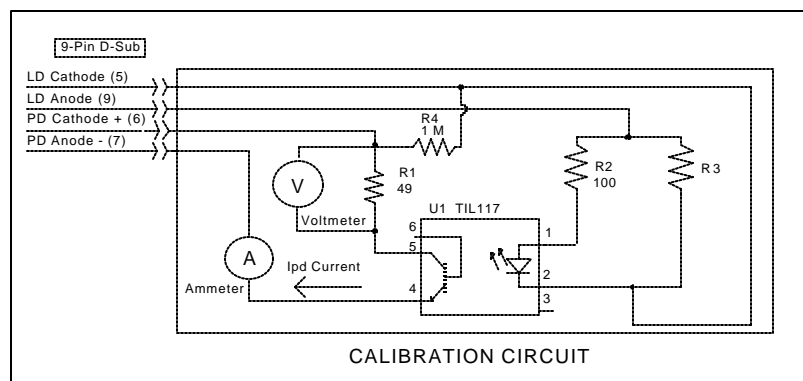

Figure 6.1 I_{PD} Calibration Circuit
It will be necessary to connect various loads and circuits to the outputs of each Current Source for the calibration procedure. A schematic is shown in Figure 6.1 for the photodiode calibration circuit with the required components listed in Table 6.2. Also, the devices required for other calibration loads are listed in Table 6.2.
PHOTO-DIODE MONITOR CALIBRATION (See schematic in Fig. 6.1)
- a. With the LASER output off, connect a calibrated ammeter to the PD Anode output of the Laser Current Source output connector (9 pin on rear panel), and connect the circuit of Figure 6.1 to the LASER and PD outputs with the correct load resistor for the Current Source model you are calibrating (See Table 6.2).
If a precision ammeter is not available, use a zero-Ohm jumper in place of the ammeter. Then, place a calibrated DMM (with 0.1 mV resolution) to measure the voltage across the resistor, R_I , as shown in Figure 6.1. Calculate the current in the following steps by using Ohm's Law: